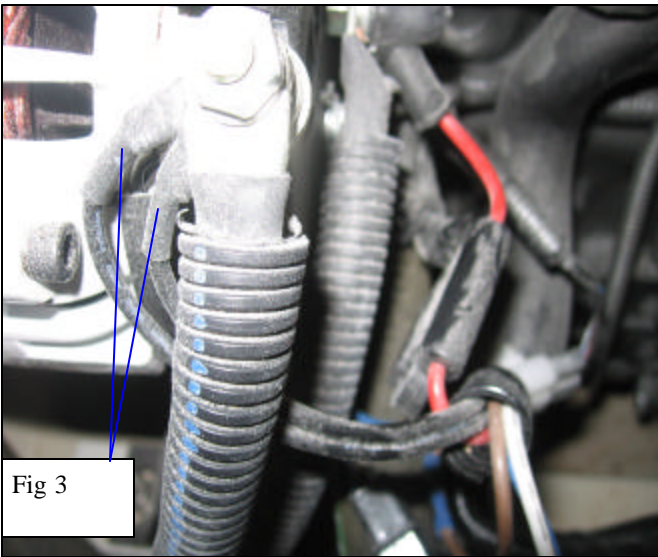

Fig 3
3. Connect 2 black wires that are from Balmar harness to alternator ground post, secure the thread stud. (fig 3)